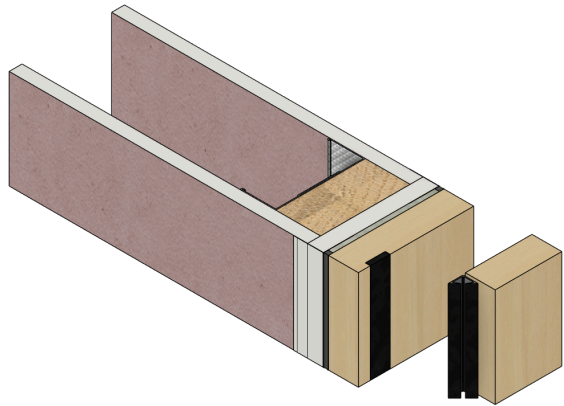
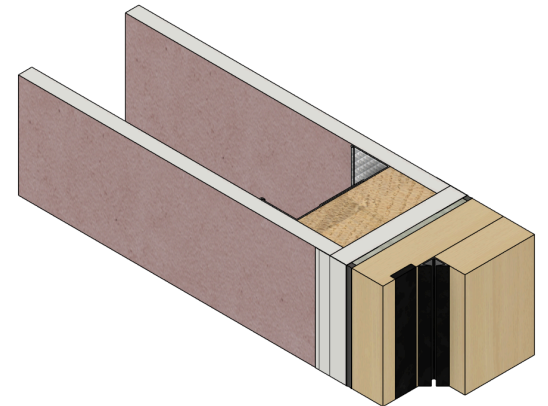

Fig.26
Fig.32
Step 13. Verify uniform perimeter gaps, correct sealing between the door leaf and frame, and compliance with specified floor clearance (Check Approved Shop Drawing). (same render as Fig.32)
Step 14. Add Architrave (Not supplied). (same render as Fig.32)
Complete all varnishing or painting and seal all fixing holes before installation of the Intumescent strip and perimeter seals (Fig.26, Fig.32)